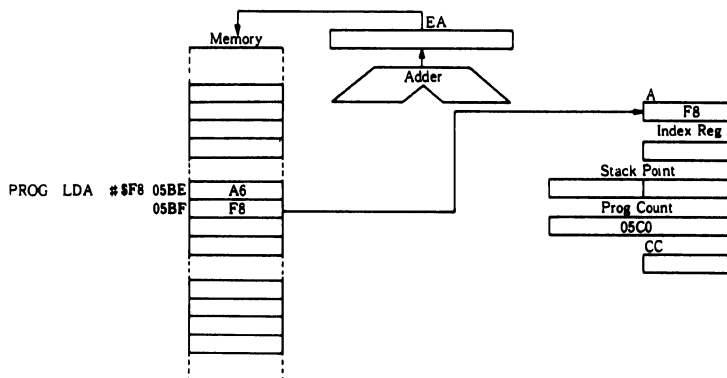

Figure 2-22 Immediate Addressing Example
Refer to Figure 2-22. The immediate addressing mode accesses constants which do not change during program execution. Such instructions are two bytes long. The effective address (EA) is the PC and the operand is fetched from the byte following the opcode.